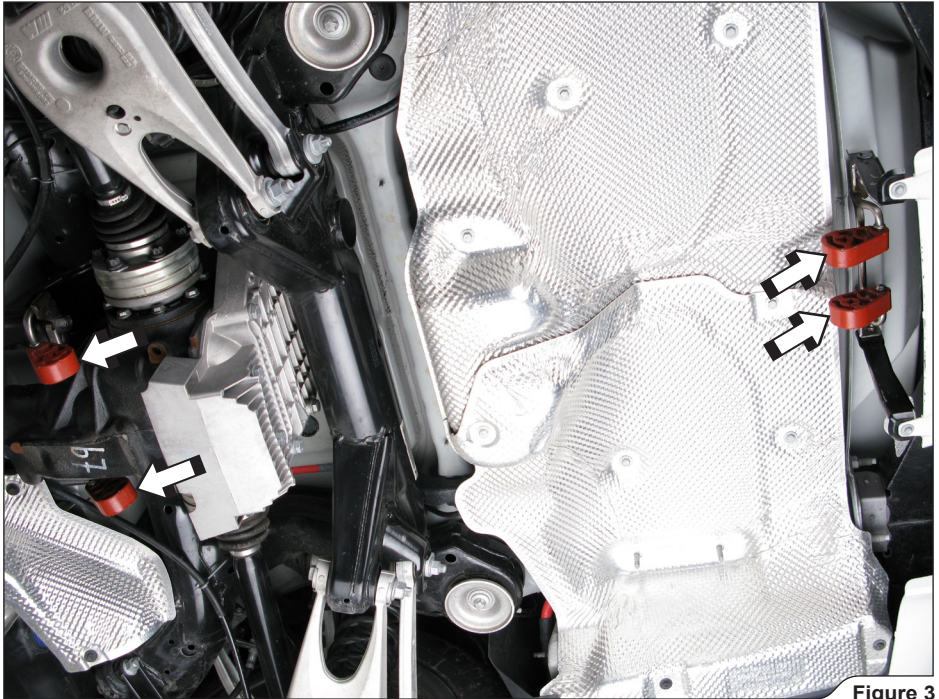

Figure 3
3. **For Slip-On and Evolution:** unhook the marked rubber dampers and remove the stock muffler from the vehicle (**Figure 3**).